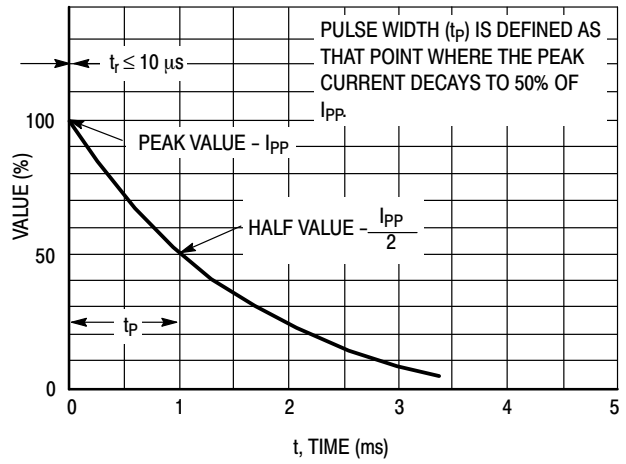

Figure 2. Pulse Waveform
8. Surge current waveform per Figure 2 and derate per Figure 3.